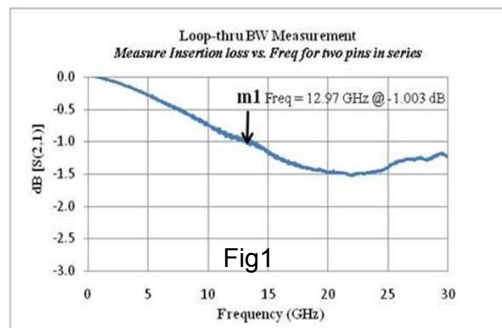

Fig1
- The measured -1dB loop-thru bandwidth for two pins in series is ~13 GHz as shown in Fig. 1
- Upon extrapolating the above curve for -1dB, the observed bandwidth is ~ 26GHz supporting the chart in Fig. 1